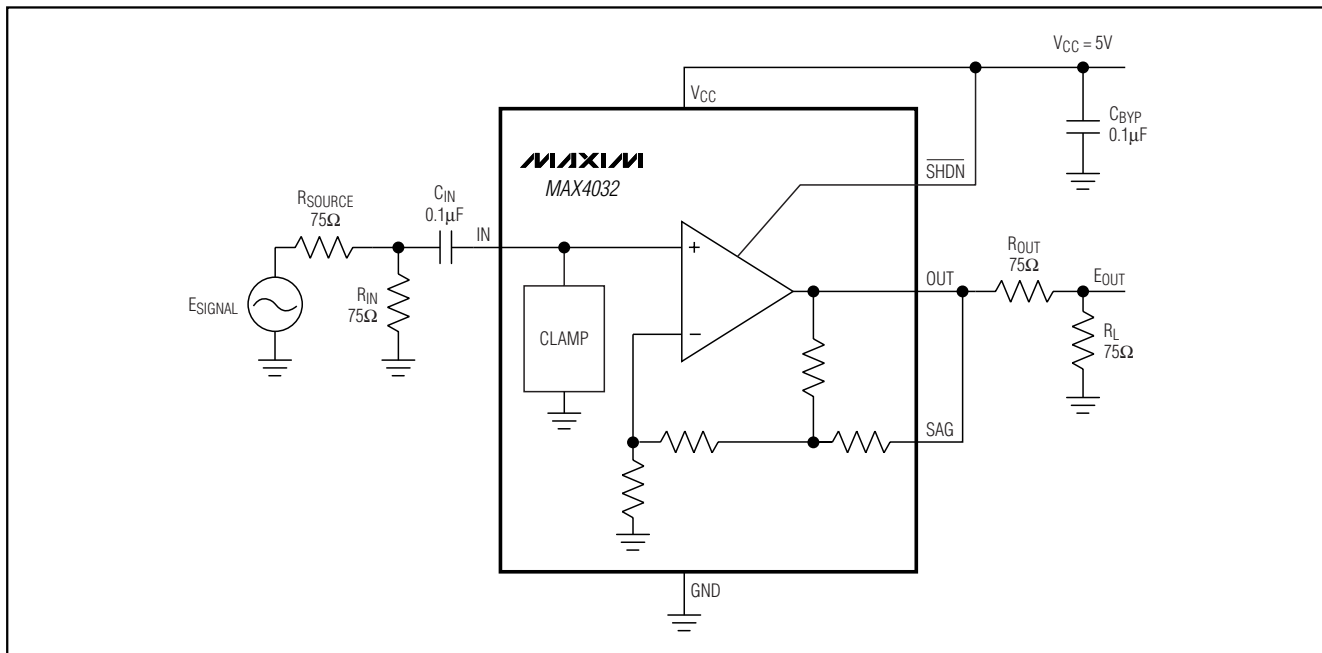

Figure 2. DC-Coupling the MAX4032
- 1) SAG is shorted to OUT and 150Ω is directly connected from OUT to ground (see Figure 2).